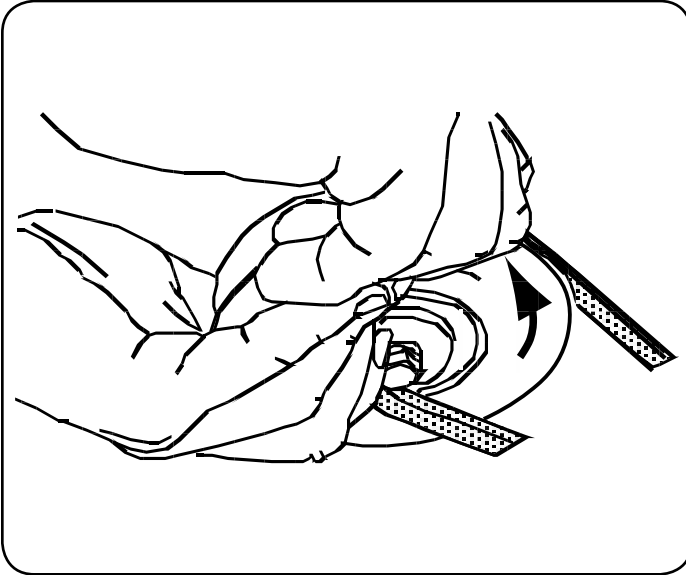

Figure 37
8. Pull the right side of the belt and place the narrow V side of the belt into the PTO pulley. See Figure 37.